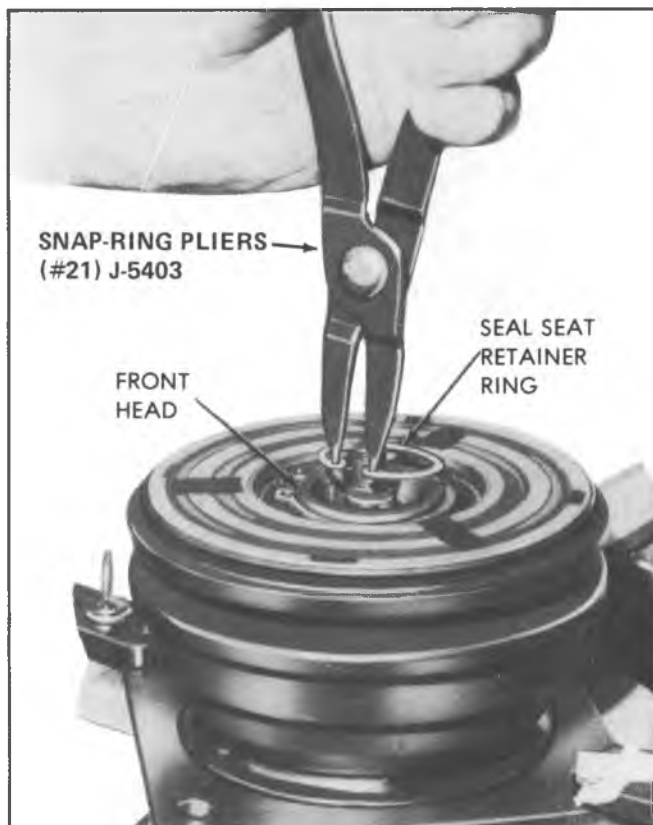
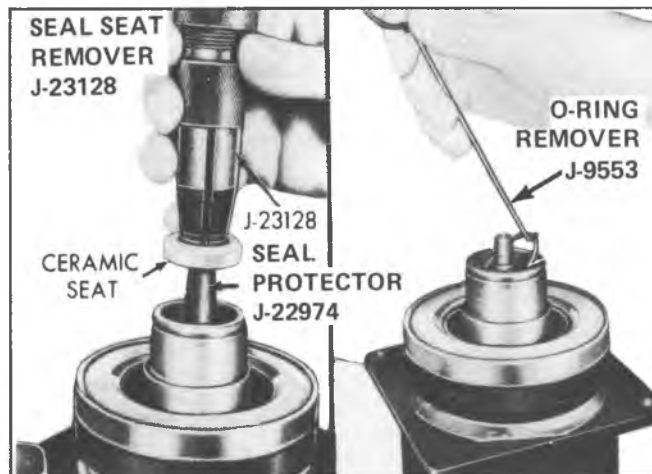

Fig. 18--Removing or Installing Shaft Seal Seat Retaining Ring
Fig. 19--Removing Shaft Seal Seat and O-Ring
2. Pry out the sleeve retainer and remove the absorbent sleeve. Remove the shaft seal seat retaining ring, using Snap-Ring Pliers J-5403 (#21). See Fig. 18.
4. Place Seal Protector J-22974 over the end of the shaft to prevent chipping the ceramic seat. Fully engage the knurled tangs of Seal Seat Remover-Installer J-23128 into the recessed portion of the seal seat by turning the handle **clockwise** . Lift the seat from the compressor with a rotary motion (Fig. 19).
6. Remove the seal seat O-ring from the compressor neck using O-Ring Remover J-9533 (See Fig. 19).
seat O-ring and being sure the seal seat makes a good seal with the O-ring. Remove Seal Protector J-22974 from the end of the shaft (see Fig. 19).
5. Install the new seal seat retainer ring **with its flat side against the seal seat**, using Snap-Ring Pliers J-5403 (#21). See Fig. 18. Use the sleeve from Seal Seat Remover-Installer J-23128 (Fig. 19) to press in on the seal seat retainer ring so that it snaps into its groove.